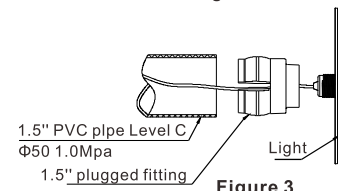

Figure 3
2. As shown in Figure 3, first push the 1.5" plugged fitting into the pre-embedded water pipe, and turn the lamp clockwise and tighten to the 1.5" plugged fitting.